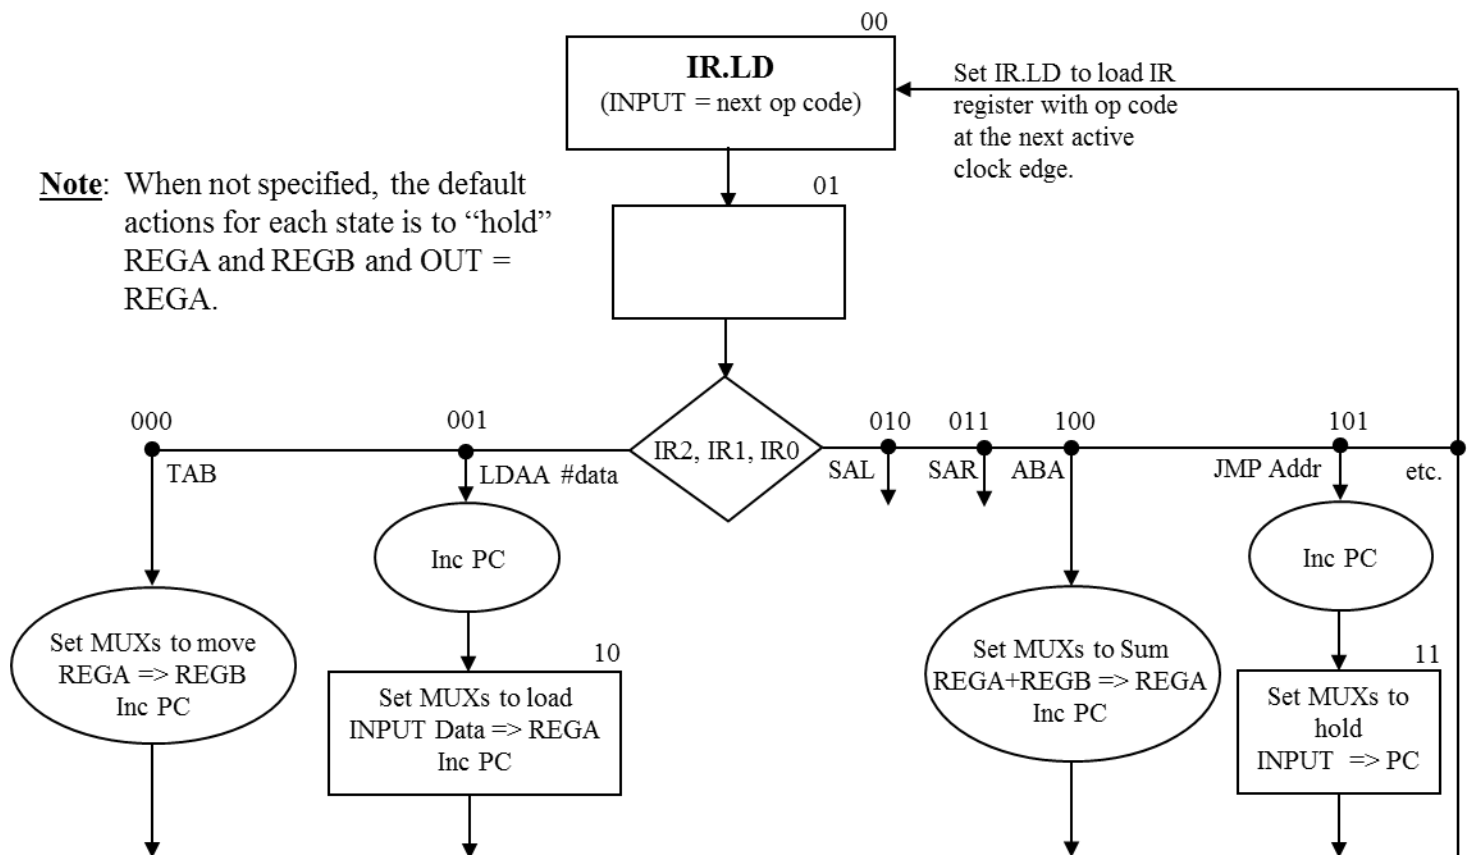

Figure 4. Controller flowchart (not an ASM).
have come from switches. This is accomplished by incrementing the PC register or “Inc PC,” as shown in the Figure 4 flowchart.
- Create an ASM chart using the Figure 4 flowchart as an aide; i.e., put in the actual signals to control the PC, IR, and the MUXs. Complete the ASM diagram, by also including the required elements for the SAL and SAR instructions.